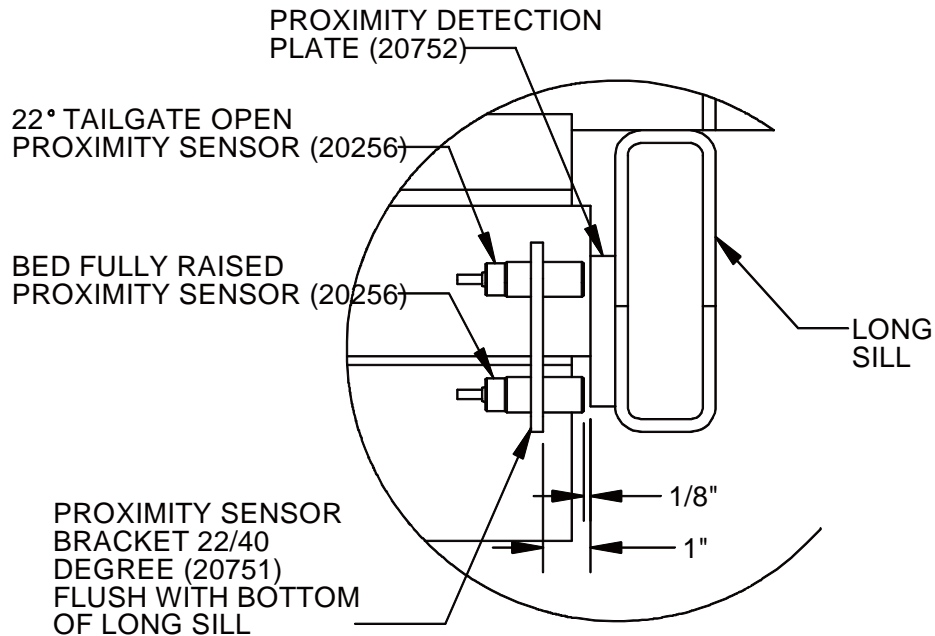

Figure 2 – Bracket Location for 22/40 Degree Proximity Switches
4. Weld the proximity bracket for the 22/40 degree proximity switches (20751) onto the sub frame. Refer to Figure 2 for proper location of proximity bracket.